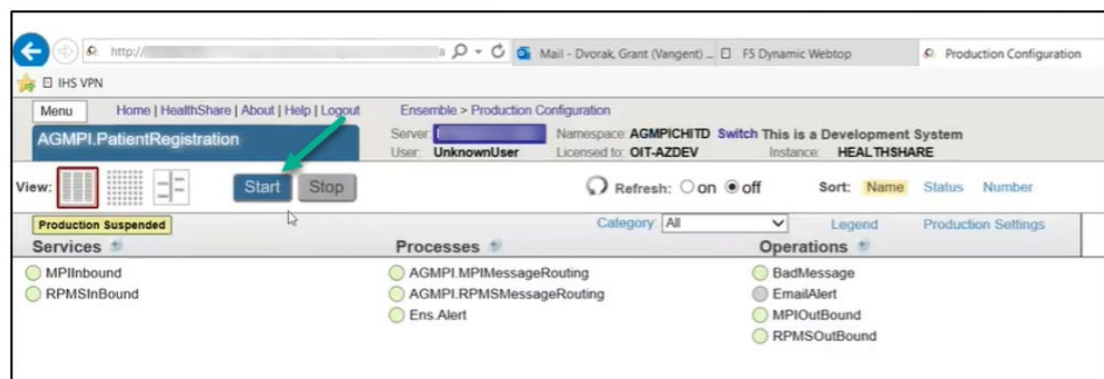

Figure 8-4: Production Configuration page - production suspended
- a. If a stopped or suspended production is initially opened, click **Start** (Figure 8-4, green arrow).
1. Choose a new namespace (see Section 3.1). Click **Start** (Figure 8-4, green arrow).